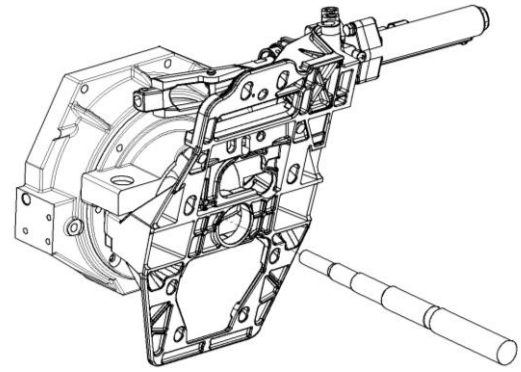

Figure 14- Inserting the alignment bar in the transom.
13. Place the alignment bar as shown in Figure 14 The bar must cross the stern drive, the grooved unit and the test centering (indicated by the letter n in Figure 15).